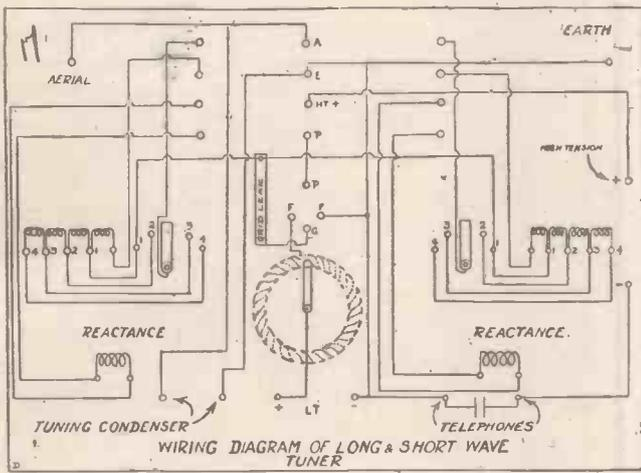

Fig. 1.
between the above-mentioned point and the grid of the valve. Positive low tension to switch arm of resistance, through the latter and thence to the positive, *e.g.*, of the valve holder. The actual diagrammatic sketch of the circuit is shown in Fig. 1, which gives details of the actual circuit when the C.O.S. is either on long or short wave side. Very little trouble should be experienced in joining up the set if the diagrams are studied closely.
The method of varying the coupling between the aerial coils and the reaction coil is also shown in Fig. 1, where a brass rod is shown as having been screwed or otherwise fixed in the lid of the box and fitted with an ebonite at the top. The length of this rod is determined by the depth of the cabinet, and in this case it is constructed to the requirements of a cabinet  $6\frac{1}{2}$  in. deep.
Now let us consider the reversal of this action, and that we require to hear a transmission on 350 metres, on the set diagrammatically represented in Fig. 1 (A), which has a minimum wave-length of 600 metres.
To bring the circuit to the desired wave-length we might include a condenser in series with the aerial circuit as shown in Fig. 1 (B), and, provided that the condenser in question is of a suitable capacity, we can then hope to tune in signals on a wave-length of 350 metres.
The aerial tuning inductance is of the same value as that shown in Fig. 1 (A), and therefore in adding the condenser to the circuit two "capacities" have been connected together in series.
It is, of course, apparent that, given a circuit as shown in Fig. 1 (B), the wave-length could be increased slightly by the addition of condensers in parallel to the one already in circuit.
A skeleton plan, Fig. 1 (this article), shows a method of connecting a model shunt-wound electric motor to the selector (described in my previous articles), and consists of a battery A, shunt-wound electric motor B (with field magnet winding B1, and armature with commutator B2), drum C, contacts D, D1, D2, and E, E1, E2.